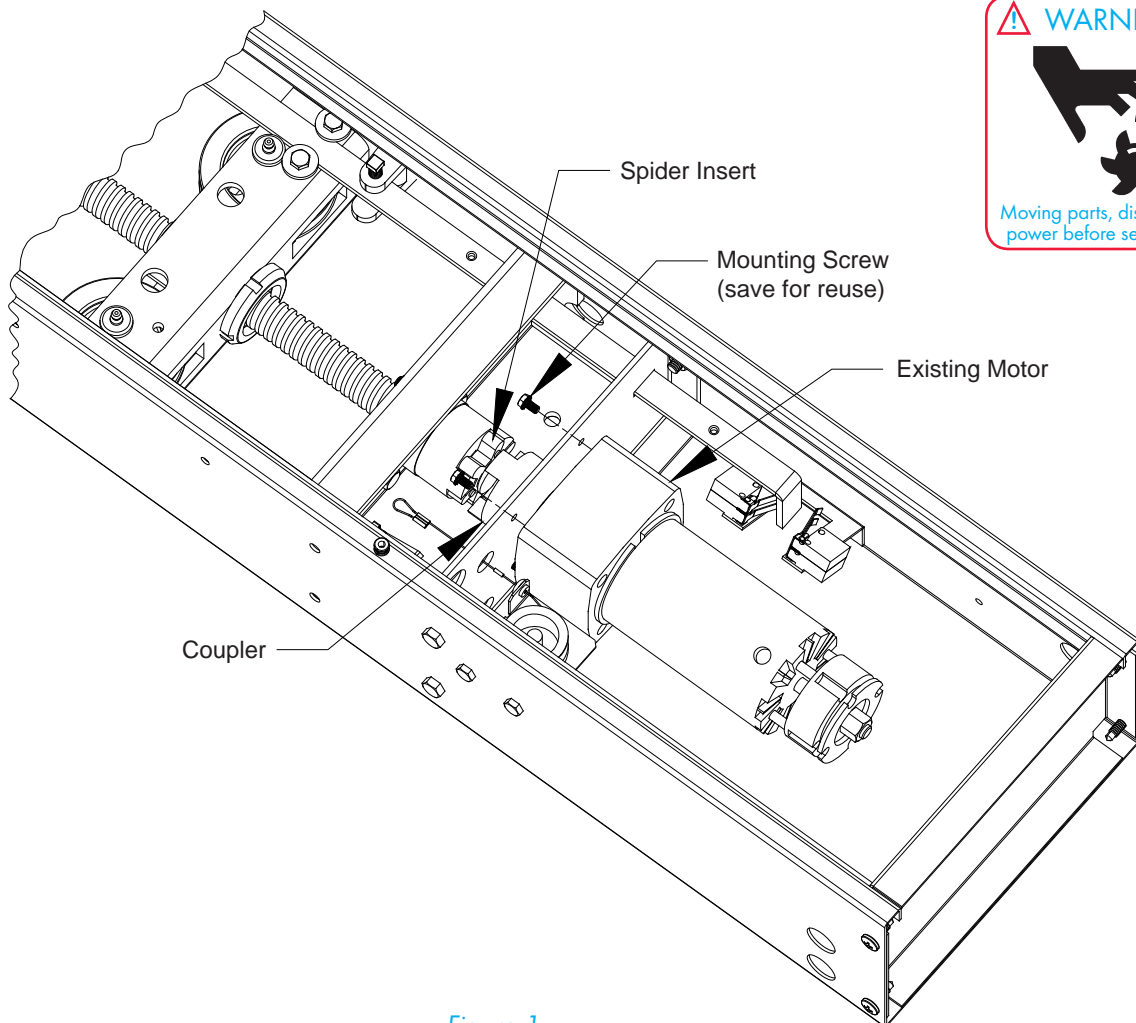

Figure 1
Remove the (4) screws holding the existing motor in the BA4000 and save for reuse. Remove the motor with coupler from BA4000. Loosen set screw to remove coupler from motor shaft and save coupler for reuse. When the 2 halves of the coupler comes apart be sure not to drop or lose the Spider Insert as it will be reused. See Figure 1.